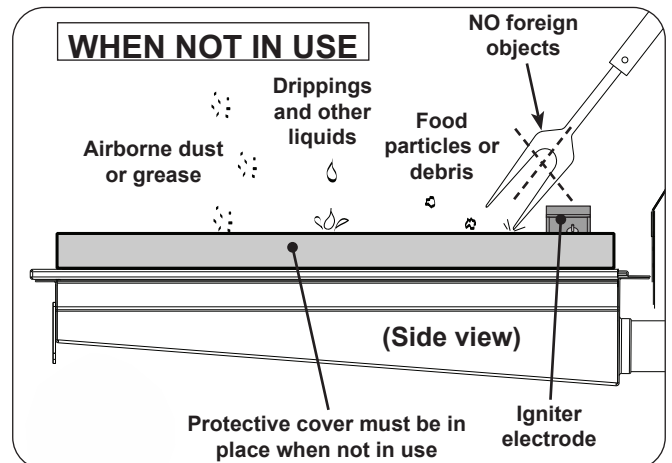

Fig. 43-2 Infrared burner - WHEN NOT IN USE
- When not in use, **always** cover the infrared burner with the stainless-steel cover. This protects the burner from drippings (from other cooking), water, airborne particles, and foreign objects (Fig. 43-2).
- Do not strike or scrape the ceramic portion of the burner as it may chip, crack, or break (Fig. 43-2).